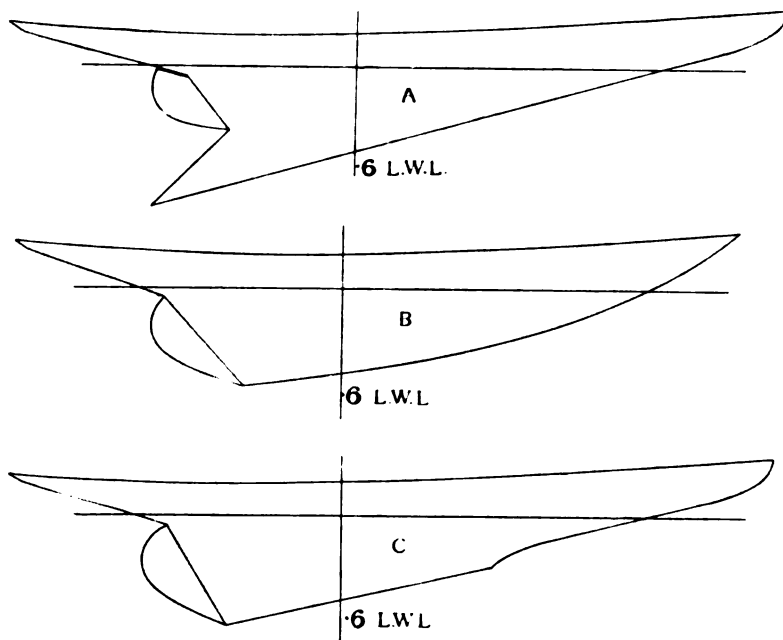

FIG. 2.
There is one weak point in the formula, which is producing an undesirable profile. The draught of the boat must not be greater forward than it is at 6 of L.W.L. without the extra draught being added for the measurement; but nothing is said about *ast* of the section, excepting that there must be no *hollow*. The result is that, by drawing the profile in a straight line from the fore end of the water line, and carrying it well under the after end, a good useful amount of dead wood is obtained for lateral resistance, and the girth G (measured at 6) can be kept small. Fig. 2 (A) shows the extreme profile possible. Such a boat would be very tricky to steer, besides being apt to damage herself badly in the event of bump-
ing heavily on hard ground. A compromise is usual, either by a long easy sweep as in Fig. 2 (B), or by dropping the keel as in Fig. 2 (C). Both the latter outlines enable the lead, and consequently the centre of gravity, to be placed lower, giving greater stability to the boat.